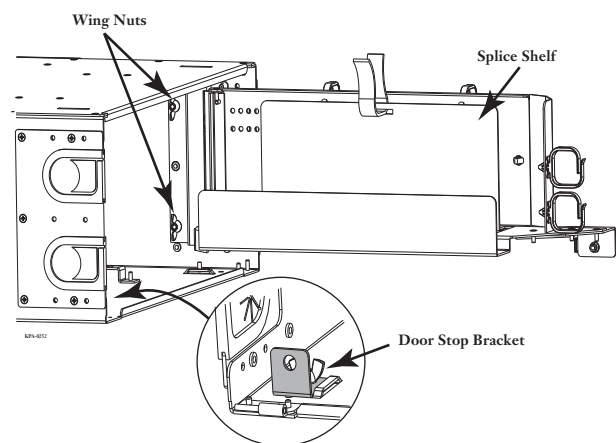

Figure 4 — Install Splice Shelf and Door Stop Bracket
- Step 4:** Mount the splice shelf onto the bolts inside of the housing and secure with the two wing nuts provided (Figure 4). If using the initial version of the housing, attach the splice shelf to the internal studs on the cable entry plate inside the housing using two wing nuts.
- Step 5:** Install door stop bracket into housing using a wing nut (Figure 4 inset).